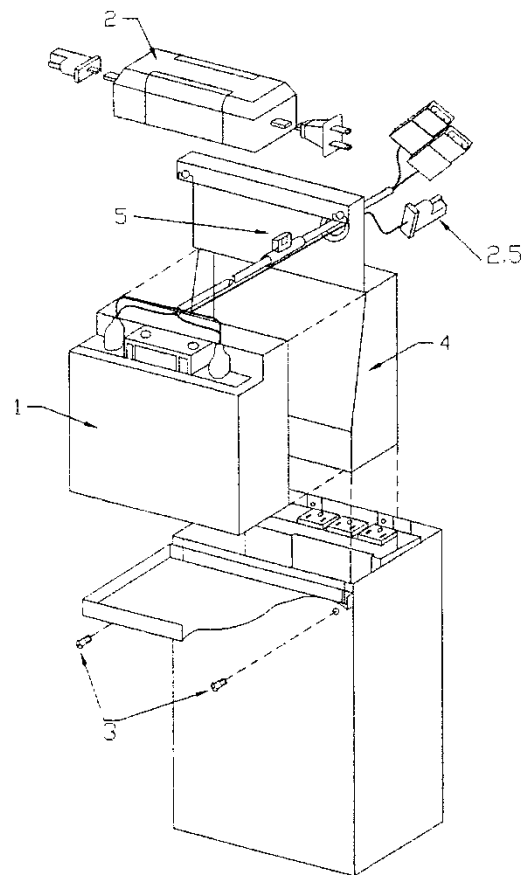

Fig. 2
BATTERY: The battery contained within the BAC310 is a sealed, lead acid type rated at 20Ah, 12VDC, **Figure 2, item 1**. The battery will provide power to operate the Parker B100, B300, and A410 for approximately two hours under normal conditions. Extended “time-on” of the Yokes will reduce this time. When battery level becomes too low for operation, the unit will shut down. The battery must then be recharged (overnight) or replaced by the optional BAC60-60 battery pack.
BATTERY CHARGING: When it becomes necessary to recharge the battery, the BC310 battery charger is provided; **Figure 2, Item 2**. This is a trickle type charger rated at 12VDC, 1.5 amps allowing for overnight charging.
BATTERY REPLACEMENT: The battery pack contained within the BAC310 may be changed to extend operating times. To replace the battery pack, disconnect the inverter plug from the battery socket. Remove the two battery bracket screws located on the rear of the steel case. **Figure 2, Item 3**. Lift the entire battery and bracket assembly straight up and out of the case with one finger placed through bracket hole. **Figure 2, Item 4**. Replace with the optional BAC60-60 replacement battery pack. (Be sure it is fully charged). Lower the entire battery pack assembly into the case. Align the holes of the battery bracket screws. Replace and retighten the screws. Plug the inverter plug into the battery pack socket.
FUSE: The BAC310 battery is fused with an in line 35A Maxi style fuse. **Figure 2, Item 5**. In the event the unit fails to function, check the fuse and replace if necessary.